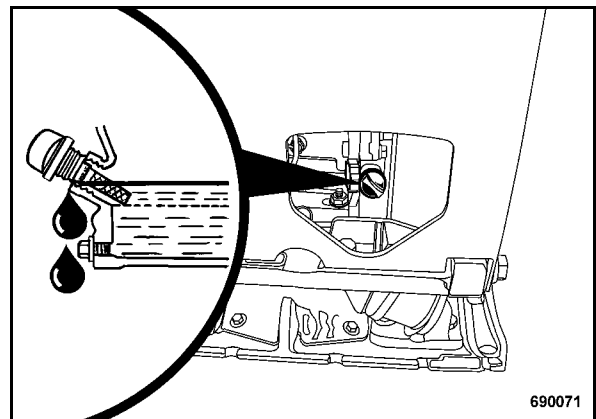

Fig. 35
- Pull out the dipstick (Fig. 35) and wipe it clean with a lint-free, clean cloth.